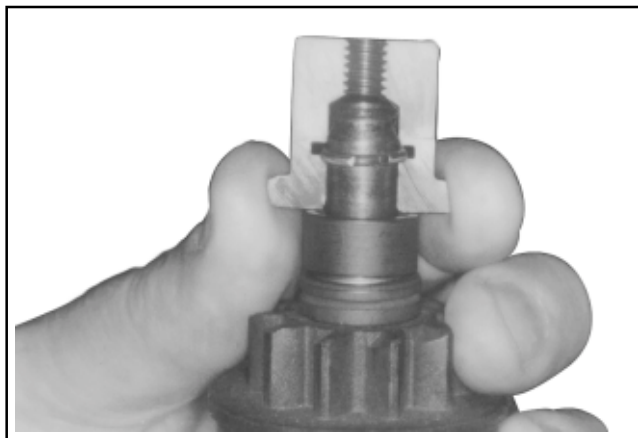

Figure 8-32. Assembling Inner Half of Tool Around Armature Shaft and Retaining Ring.
4. Holding the spring retainer in the retracted position, assemble the inner halves of the removal tool around the armature shaft with the retaining ring in the inner groove (see Figure 8-32). Slide the collar over the inner halves to hold them in position.